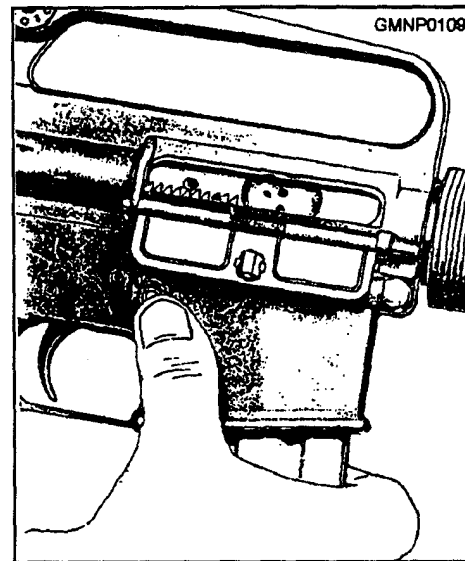

Figure 3-35.—Removing the magazine.
2. Remove the magazine, as shown in figure 3-35. Grasp it with the right hand (fingers curled around the front of the magazine). Place the thumb on the magazine catch button, apply pressure on the magazine catch button with the thumb, and pull the magazine straight out of the weapon.